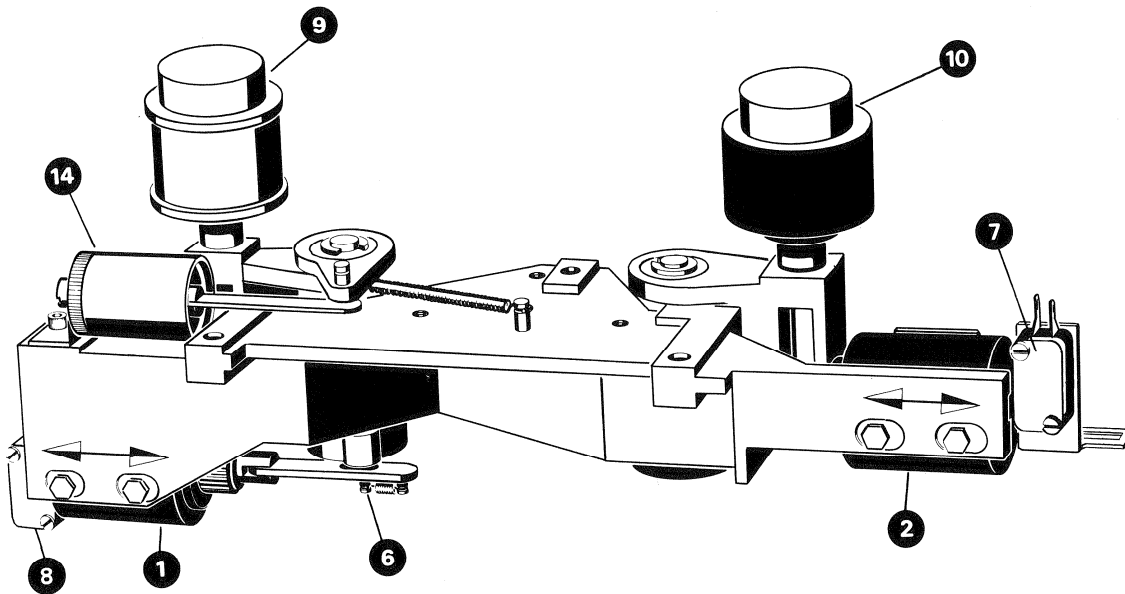

Fig. 2.4.-4
5. Braking force adjustment in supply direction (heavy braking): Place empty reel with 2 ... 3 m of tape or string on turntable in normal operating position. Attach spring balance (0 ... 500 g) to end of tape and pull steadily in order to measure. The braking force shown in table 2.4.-3 is set by means of screw (7). The hook at the end of the spring must be horizontal when the spring tension has been adjusted, see fig. 2.4.-1.